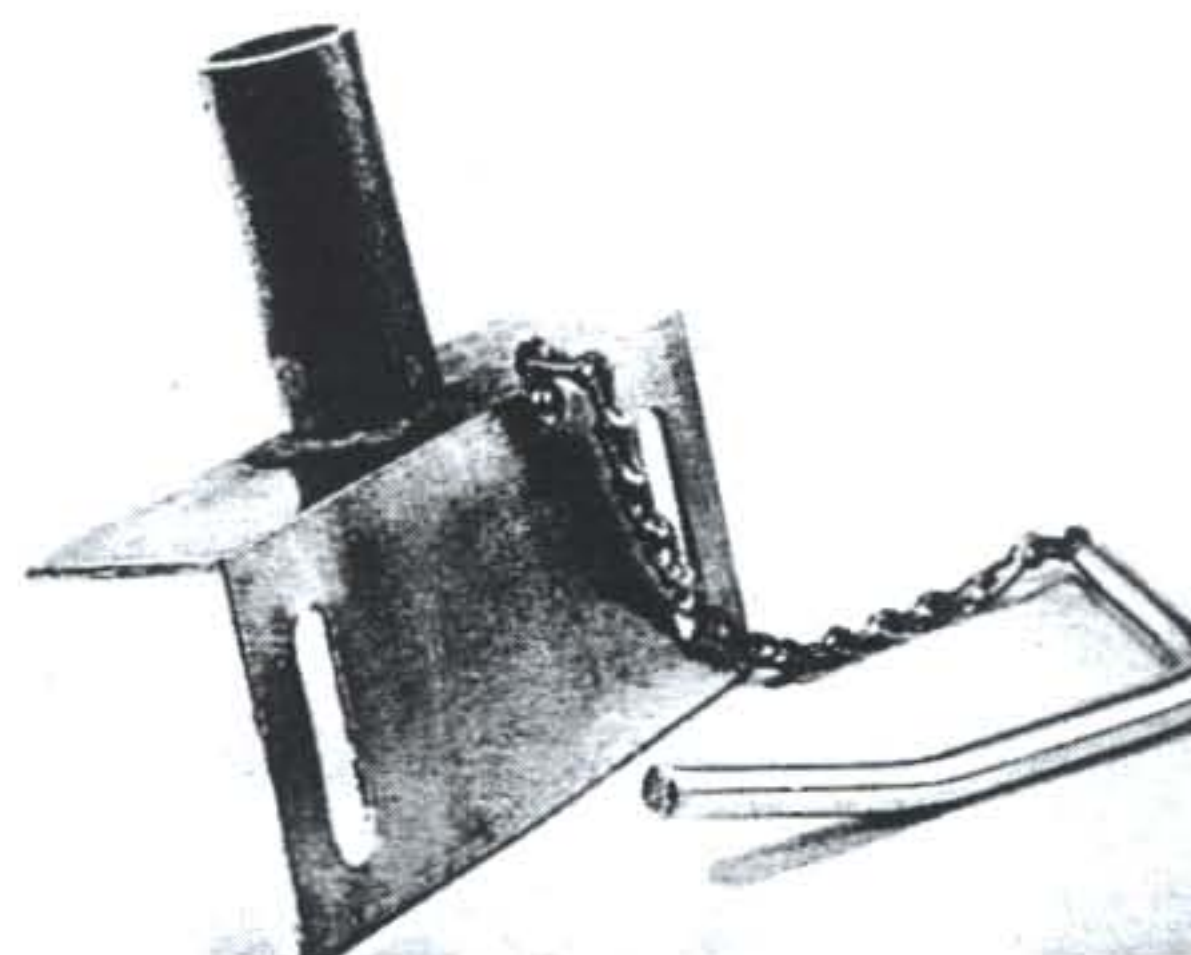

FIGURE 2
6. Adjoining floor panels are then clamped together using Corner Arch Base Brackets (FIGURE 1), and Arch Base Brackets (FIGURE 2), and Intermediate Base Brackets (FIGURE 3).